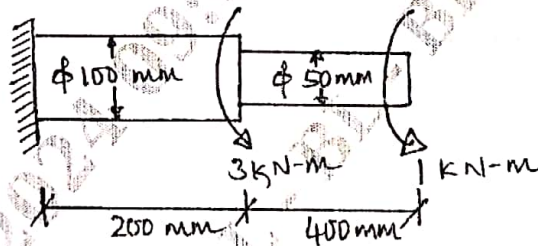

Fig. Q6 (b)
b. A solid stepped bar of circular cross section is subjected to a torque of 1 kN-m at its free end and to a torque of 3 kN-m at its change in cross section as shown in Fig. Q6 (b). Determine the angle of twist and shear stresses in the bar. Take $E = 2 \times 10^5 \text{ N/mm}^2$ and $G = 7 \times 10^4 \text{ N/mm}^2$.